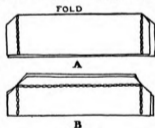

FIGURE 143
*Straight Band Collar* (Figure 143). — This collar has a variation in the shape at the neckline, for it may be cut straight or slightly curved. Place the two right sides of the fabric together. The one-piece collar is cut with the top on the lengthwise fold (A) while the two-piece collar is not cut on the fold. Allow  $\frac{1}{4}$  inch on